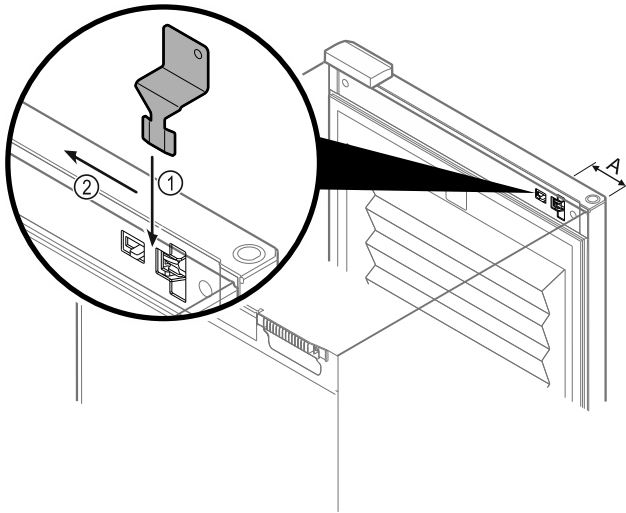

Fig. 114
- ▶ Insert the emergency release key in the specified position Fig. 114 (A) \approx 100 mm.
- ▶ Insert the emergency release key Fig. 114 (1) between the door and the body of the appliance from above to the end stop.
- ▶ Pull the emergency release key towards the hinge. Fig. 114 (2)